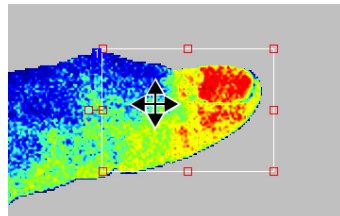

Figure 7-4 Move a ROI.
2. If needed, adjust the position of the ROI: select the ROI, then click and hold within its boundaries and move it to the desired location, see Figure 7-4.